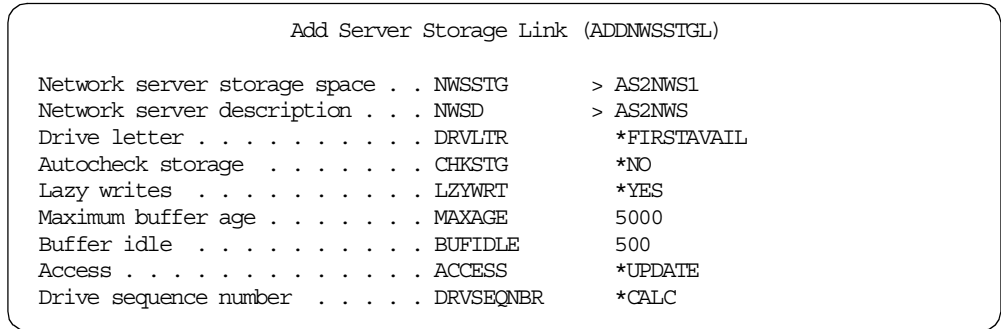

Figure 43. Add Server Storage Link
- Use the `ADDNWSSTGL` command (press F4 for prompting) to link the storage space and network server, for each of the network storage spaces created. Alternatively, you can use the `WRKNWSSTG` command and enter option `10` to link the storage spaces to the network server. You then see a display similar to the example in Figure 43. Enter the desired name for Network server storage space (usually assign a name that can be incremented for each network storage space). Enter your assigned name of the server (which you assigned in step 5 on page 157) for Network server description.